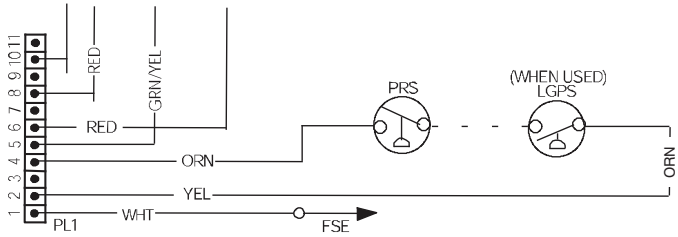

Fig. 19 – Pressure Switch Wiring
2. Connect the orange wire from the Low Heat Pressure Switch to the orange wire with the insulated male spade terminal (see Fig. 19)